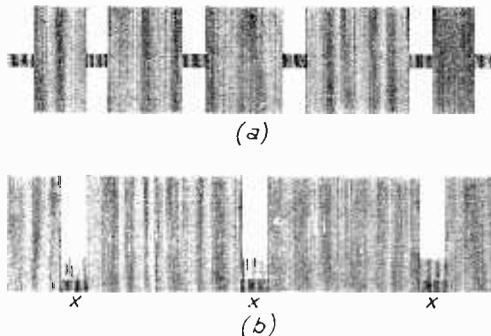

Fig. 12.—Final waveforms.
will keep the trace steady enough to see. Preferably, set S1 to top frequency—about 1 Mc/s or more. Fig. 12 (a) shows the waveform produced.
(15) Transfer the oscilloscope Y input to anode of V7. Fig. 12 (b) should now be seen. Check that the R.F. occupies 70 per cent. and the sync pulses 30 per cent. of the vertical height of the trace. Adjust the value of R7 if necessary, but try adjusting VR2 first.
(16) Transfer the oscilloscope to V5-V6 anode. Set the oscilloscope to about 500 sweeps per sec. and check line pulses. Set sweep to 50 c.p.s. and investigate the width of the frame sync pulses (Fig. 12 (b) "x"); each should contain 6-10 line pulses inverted; to correct, adjust VR1.
(17) Connect output of C25 to the input of a TV receiver known to be good; tune C24 and C25 for raster. Set S1 to low frequency, and adjust VR2 for best definition of the vertical bars displayed. Check over all settings of S1 and